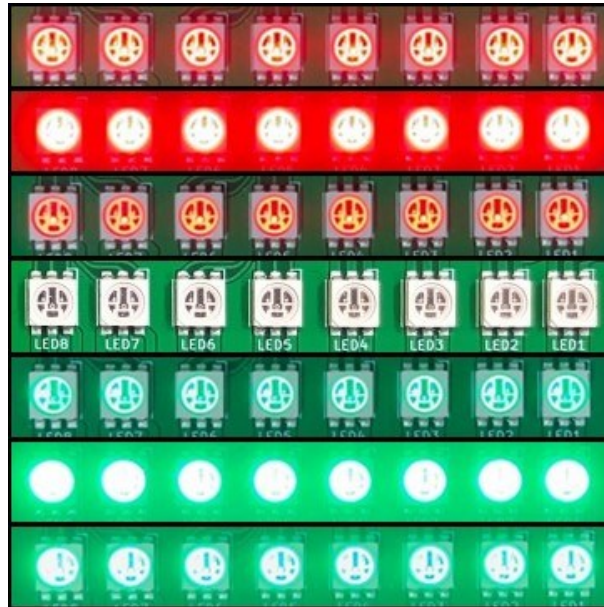

Figure 5: Fade in/out display
1. Red, green, and blue will fade in and out sequentially as shown in Figure 5.